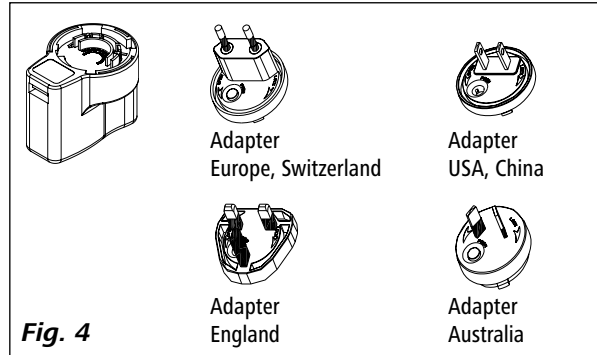

Fig. 4
- OS 1.0 power supply (for WiCo) see Fig. 4